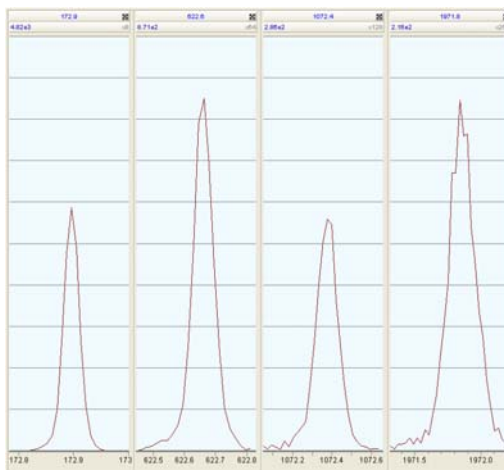

Figure 28 - Zoomed-in quad peak display
23. Increase the gain of each window so the whole peak can be seen (Figure 28).